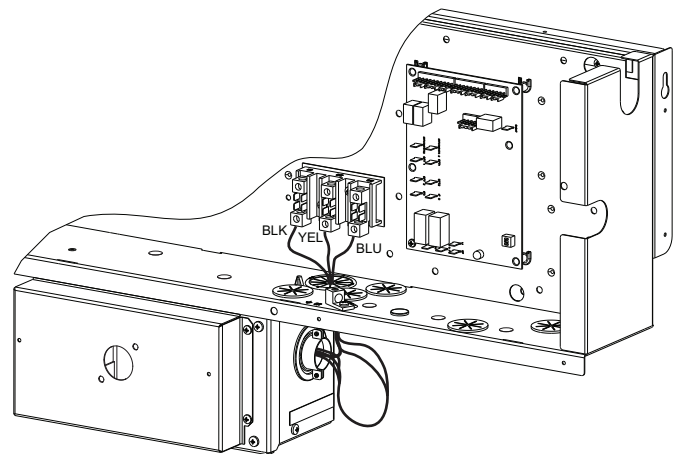

Fig. 19 — NFD Enclosure Location
1. Remove the control box access panel (see Fig. 2 and 3). The NFD enclosure is located below the control box (see Fig. 19).